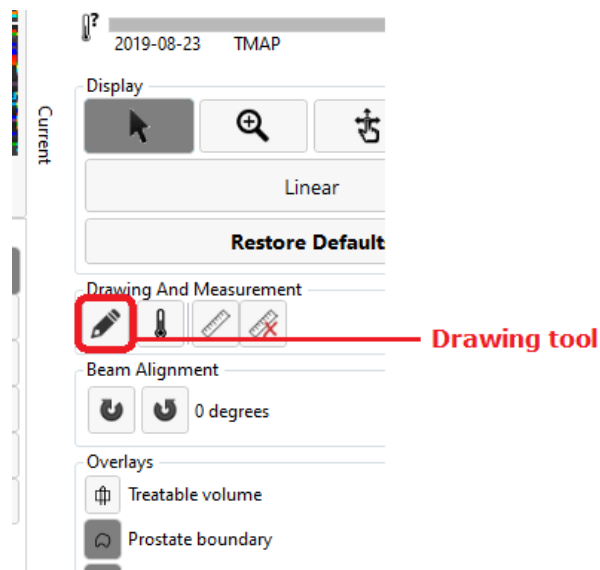

Figure 47: Prostate-boundary 'Drawing' tool on Delivery screen
2. Once delivery is paused, expand the right panel in the Delivery workspace to select the prostate boundary drawing tool (Figure 47).